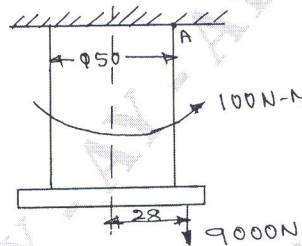

Fig.Q.1(c)
- c. A 50 mm diameter steel rod supports a 9 kN load and in addition to subjected to a torsional moments of 100 N-m as shown in Fig.Q.1(c). Determine the maximum tensile and the maximum shear stress.